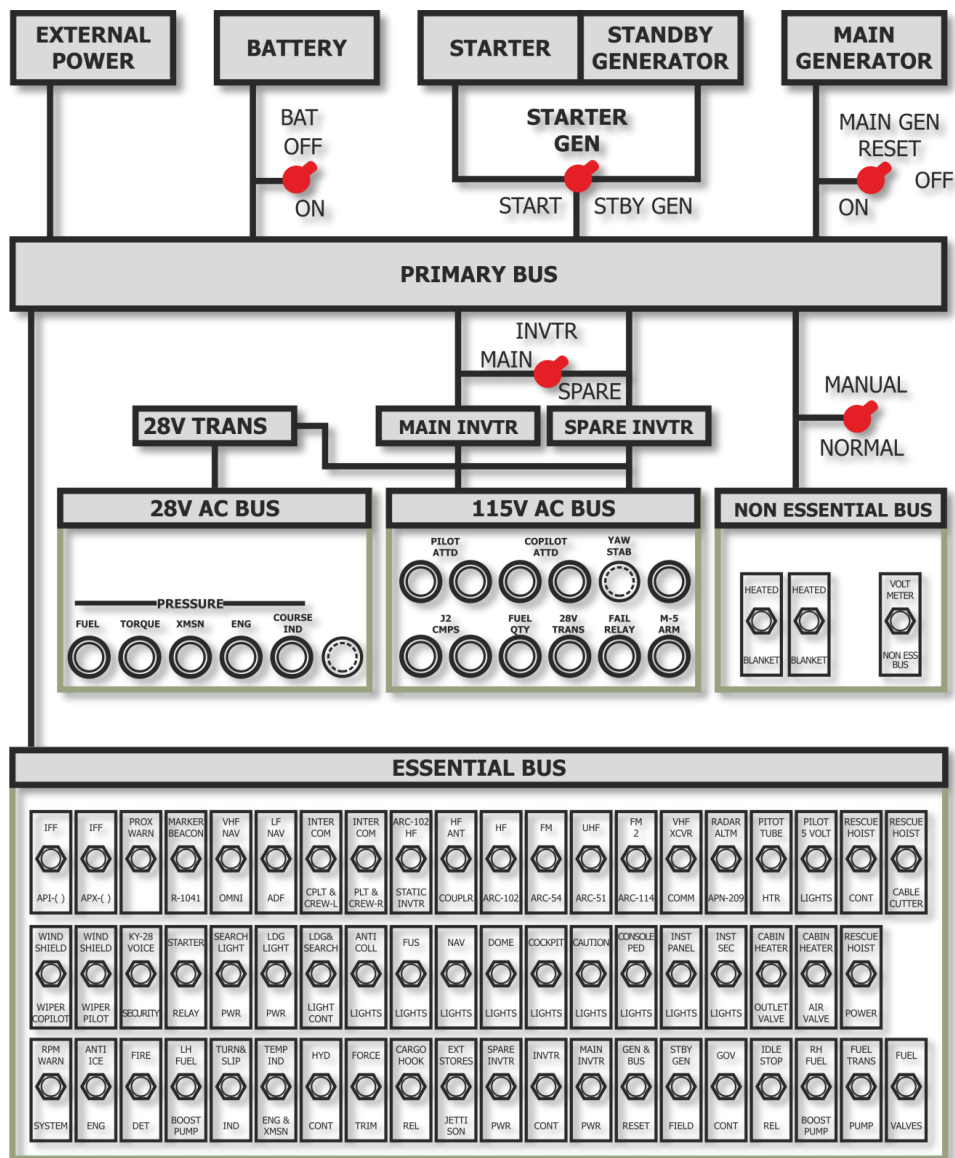
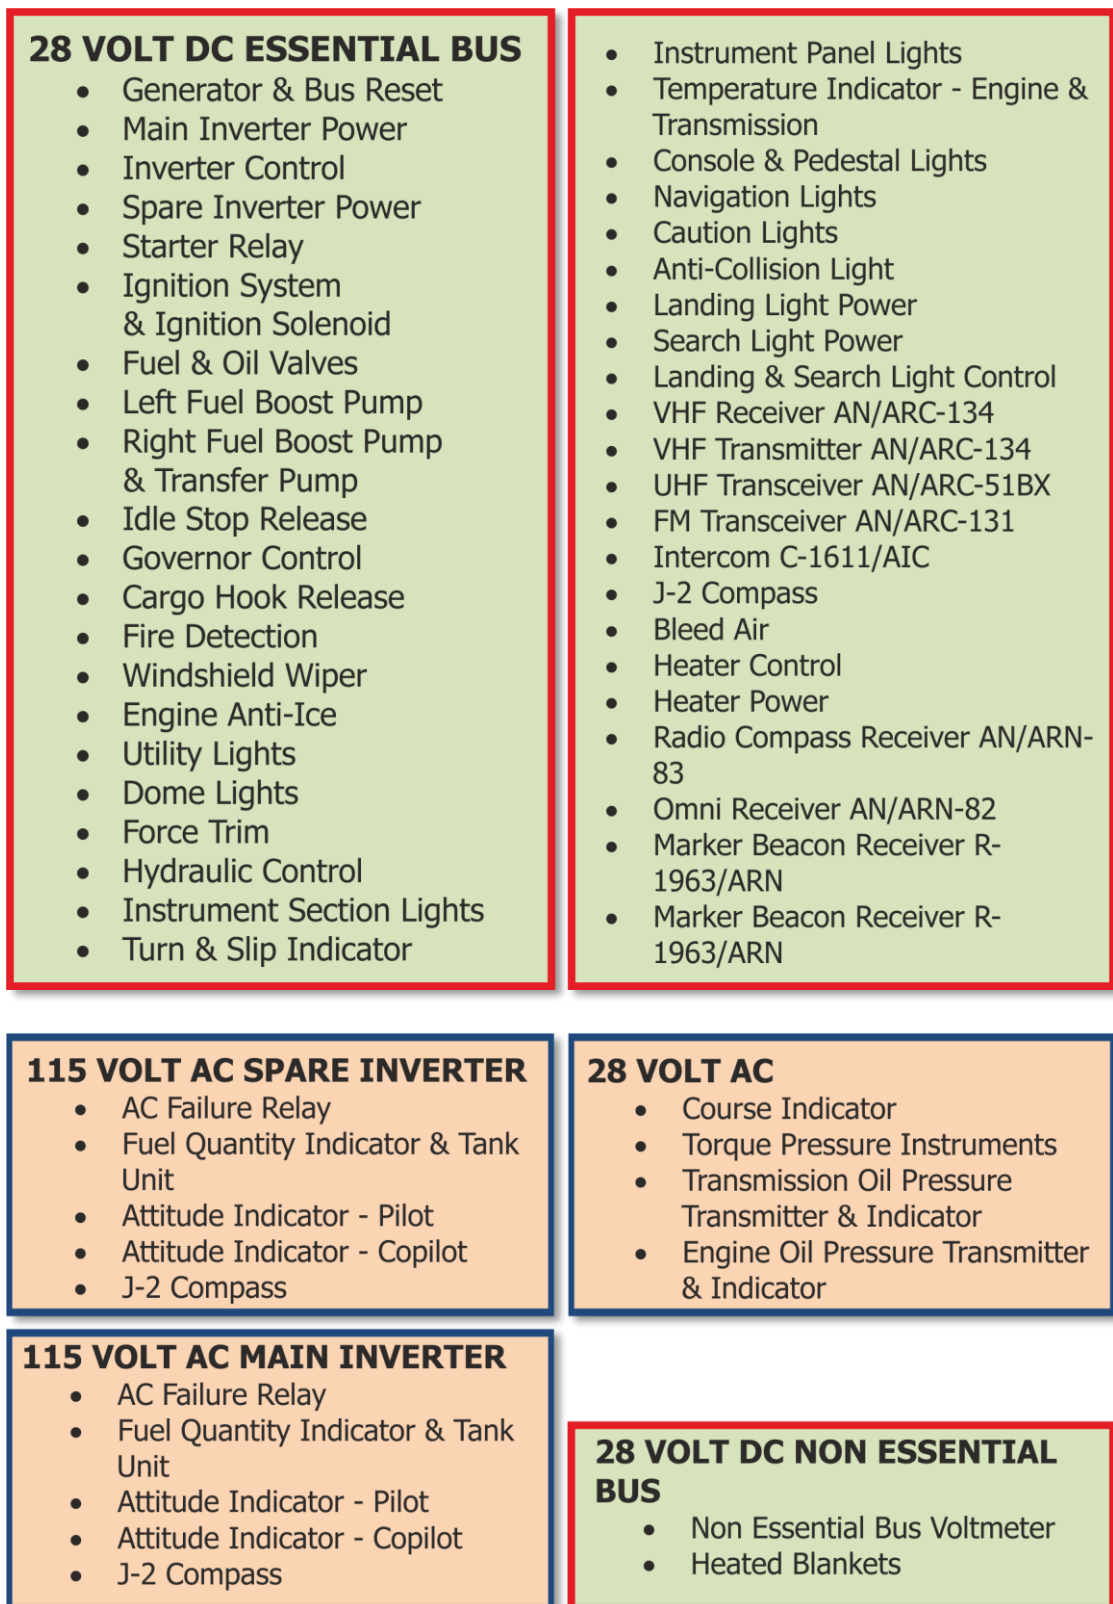
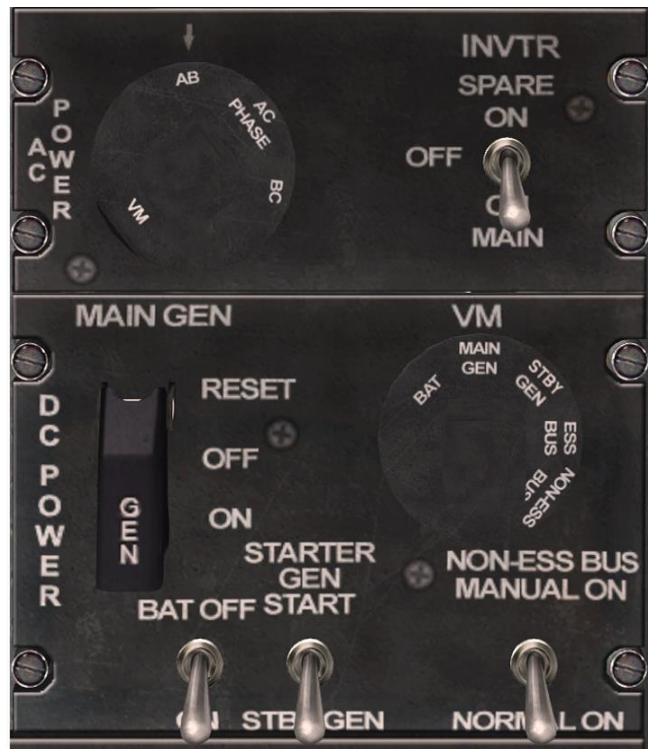

Figure 6.2. Electrical System Schematic.
Figure 6.4. DC and AC Power Distribution Diagram.
Figure 6.5. Overhead Console AC and DC POWER Panel.
Figure 6.2.. Figure 6.4 depicts the general schematic of the DC and AC power distribution system. The DC power is supplied by the battery, main generator, standby starter-generator, or the external power receptacle. The 115 VAC power is supplied by the main or spare inverters. The 28 VAC power is supplied by a transformer which is powered by the inverter.
A. MAIN GENERATOR SWITCH The MAIN GEN switch (Figure 6.5) is on the overhead console DC POWER panel. In the ON position the main generator supplies power to the distribution system. The RESET position is springloaded to the OFF position. Momentarily holding the switch to RESET position will reset the main generator. The OFF position isolates the generator from the system. The circuit is protected by the GEN & BUS RESET in the DC circuit breaker panel.
Alternating current is supplied by two inverters (Figure 6.2). They receive power from the essential bus and are controlled from the AC POWER control panel (Figure 6.5).